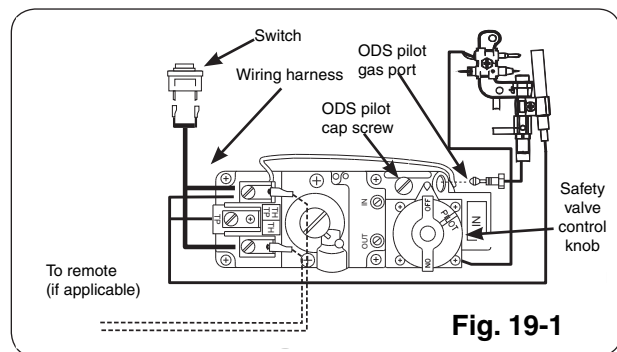

Fig. 19-1
To read the safety valve control knob (Fig. 19-1), read the marking nearest the teardrop-shaped metal pointer.
- b. If adjustment is necessary, remove the cap screw (Fig. 19-1) and turn the smaller gas adjustment screw inside counterclockwise ↺ to increase the ODS pilot flame, and clockwise ↻ to decrease the ODS pilot flame. Replace the cap screw.